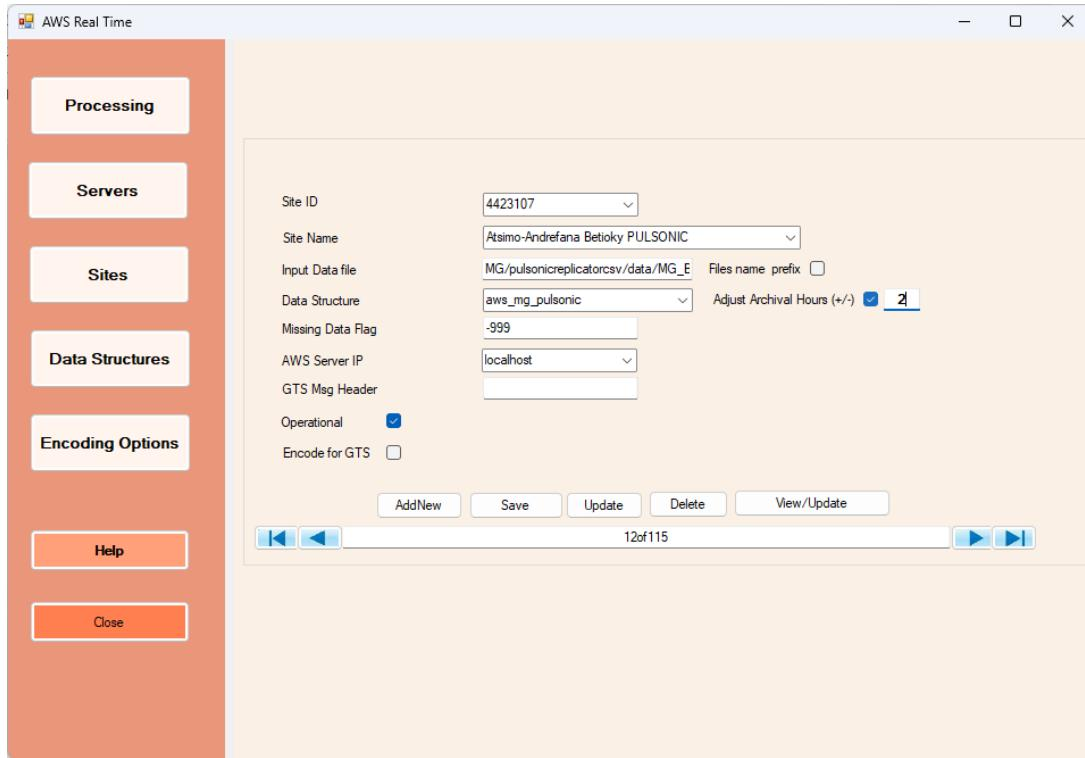

Figure 91: AWS server settings
- Click the command **Sites** to give the dialog in Figure 91,